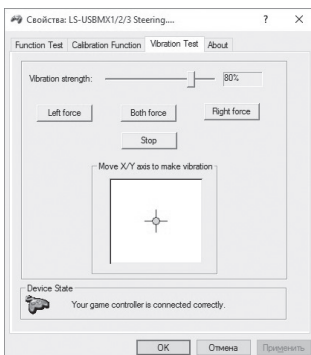

Fig. 11
- In the «Vibration Test» tab, you can check the operation of both vibrators together by pressing the «Both force» button; or separately, by pressing the «Left force» and «Right force» buttons (Fig. 11). To stop the test, press the «Stop» button. Moving the cursor in the row «Vibration strength» we can increase or decrease the force of vibration. To save the settings, click «Apply» or «OK» in the bottom line of this window.